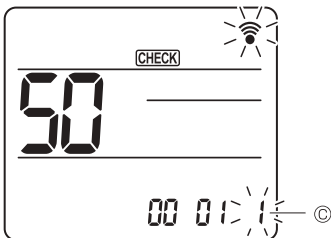

Fig. 4
Use the **[↓]** button to change the Setting number ③. (Fig. 4)